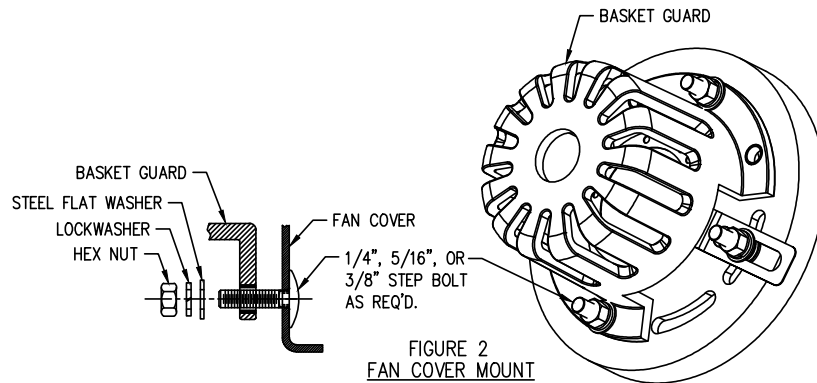

FIGURE 2
- 3) After encoder is installed, place the protective basket guard over the encoder with the larger opening over the output termination and the shallow opening over the tether. Ensure the guard is properly sealed on the mounting face and secure with hardware provided. See figs. 2, 3 or 4.
- 4) Attach free end of tether bracket to a fan cover, motor c-face or machine frame, as required. Use the insulating washers and hardware supplied to secure the tether. See figures 2, 3 or 4. Check to ensure that the tether is in a "no stress" condition, Then firmly tighten clamp collar screw to 35-40 lb-in using T- handle hex wrench. Do not use a right angle hex wrench.